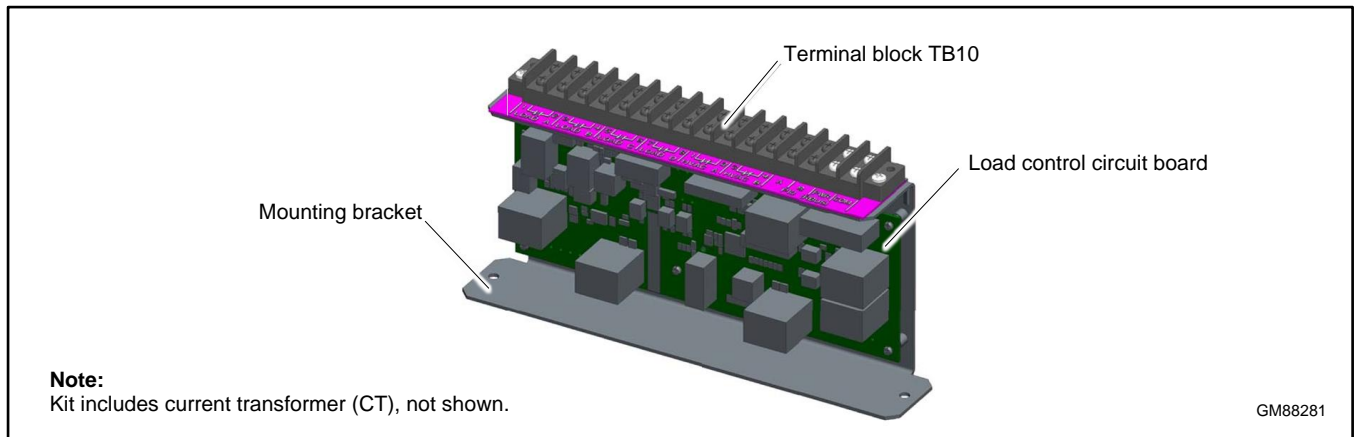

Figure 29 Load Shed Assembly (mounts inside the RDT or RXT transfer switch enclosure)
- The optional Load Shed Kit mounts inside a model RDT or RXT transfer switch. Figure 29 shows the load shed assembly.